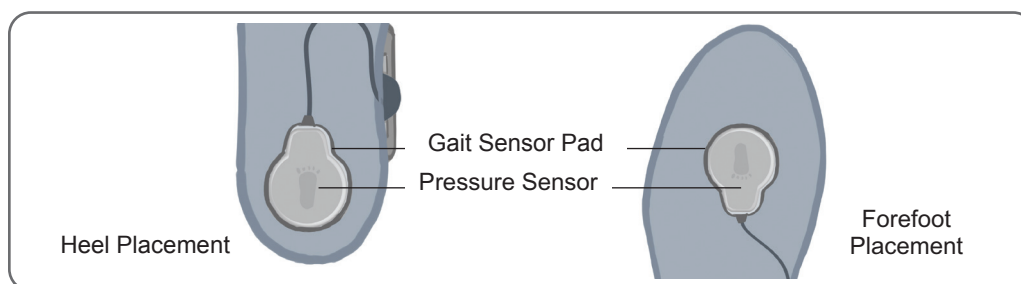

Figure 8-13: Positioning the Foot Sensor in the Shoe
4. For heel position placement point the wire of the Foot Sensor toward the toe of the shoe. For forefoot position placement point the wire of the Foot Sensor toward the heel of the shoe. Attach the pressure sensor to the Foot Sensor pad. See Figure 8-13.